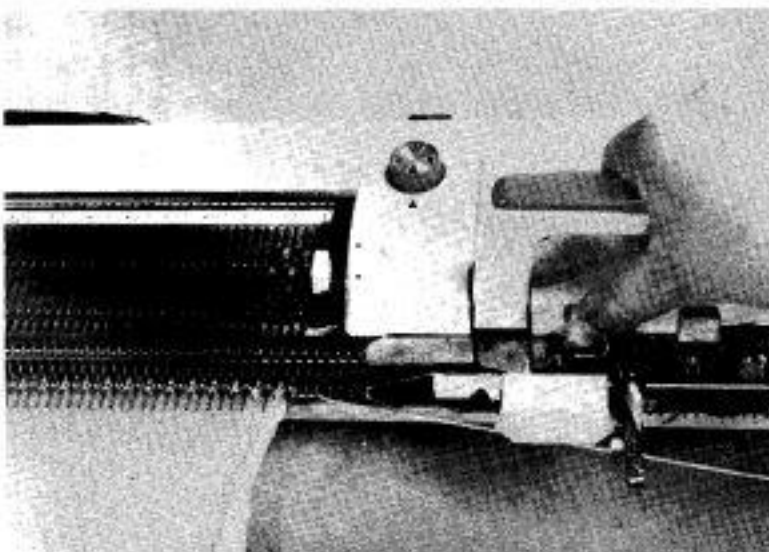

Fig. 96
For instance, set Pattern Control Knobs to A, Needle Selection Control Knobs to No. 4, and turn the Needle Selection Guide Strip so that the visible face is 43214321 - see Table 1. Push back into Position (B) the 2nd and 4th needles near the Carriage as shown in Fig. 96, and move the carriage at the same time pushing in the leading Needle Forwarding Lever.